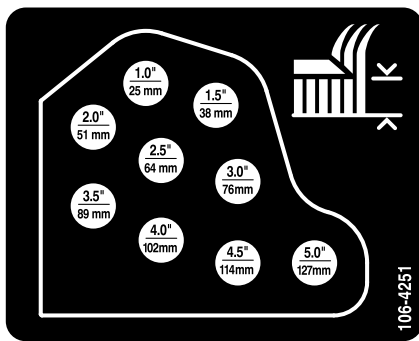

Figure 20
11. Mount the height-of-cut chains to the desired height-of-cut hole with the clevis pin and hairpin cotter (Figure 20).